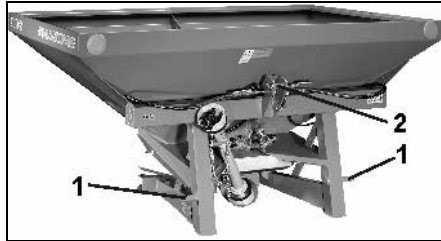

Fig. 18
- Push lower link of the tractor onto the lower link pin (Cat. II) (Fig. 18/1) and secure with clip pin.
- Fix upper link with fixing pin (Cat. I or II) (Fig. 18/2) and secure